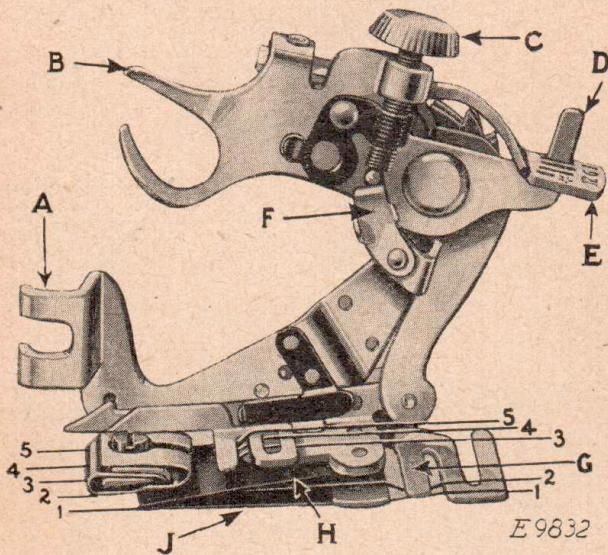
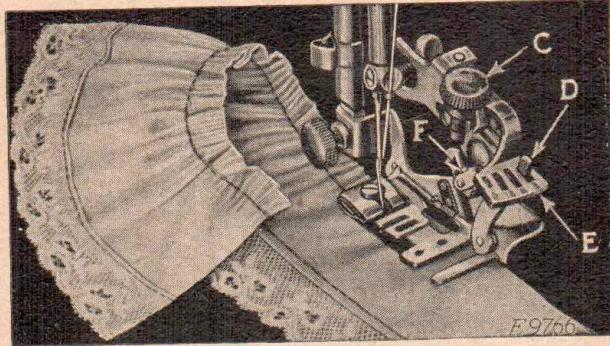
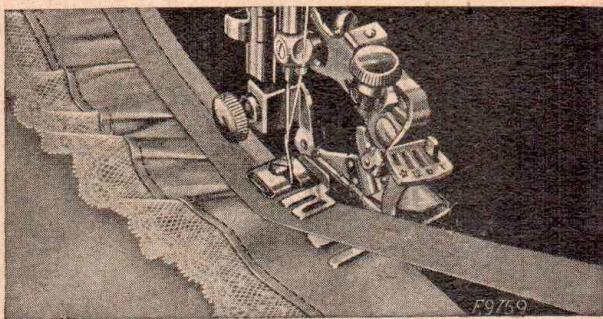
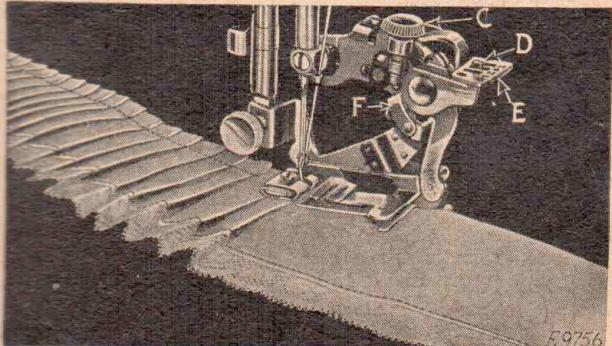

FIG. 55. THE RUFFLER AND ITS PARTS
FIG. 56
FIG. 58
FIG. 60
Lines 1, 2, 3, 4 and 5 shown in Fig. 55 indicate where the material is to be placed for various operations, as follows:
Refer to Fig. 55 when inserting the material in the ruffler.
(SEE REFERENCES IN FIG. 55)
Raise the needle bar to its highest position and remove the presser foot. Attach the ruffler foot (A, Fig. 55) to the presser bar from the right and fasten by means of the thumb screw, at the same time placing the fork arm (B, Fig. 55) astride the needle clamp as shown in Fig. 56.
The adjusting finger (F, Fig. 56) is not intended for gathering and should be moved forward or away from the needle, as shown in Fig. 56.
Raise the adjusting lever (E, Fig. 56) and move it to the left so that the projection (D, Fig. 56) will enter the slot marked "1" in the adjusting lever (E) when the lever is released. The ruffling blade will then move forward and back once at every stitch. Insert the material to be ruffled between the two blue blades, following the line 2 in Fig. 55. Draw the material slightly back of the needle, lower the presser bar and commence to sew.
To make fine gathering, shorten the stroke of the ruffling blade by turning the adjusting screw (C, Fig. 56) upward; also shorten the stitch. To make full gathering, lengthen the stroke of the ruffling blade by turning the adjusting screw (C) downward; also lengthen the stitch. By varying these adjustments, many pleasing varieties of work can be accomplished.
2, in Fig. 55. Place the garment to which the ruffle is to be attached, under the separator blade, following the line 1, in Fig. 55. Proceed the same as for gathering.
Insert the material to be ruffled between the two blue blades, following the line 2, in Fig. 55. Place the garment to which the ruffle is to be attached under the separator blade, following the line 1, in Fig. 55. Place the material for the facing over the upper blue blade, as shown in Fig. 58, following the line 3, in Fig. 55. The facing may be straight or bias material. If the facing is to be on the right side of the garment, place the garment and
Insert the material to be ruffled between the two blue blades, following the line 2, in Fig. 55. This
The material for piping must measure about $\frac{1}{4}$ inch wide when folded in the center and is usually cut on the bias. Place the piping material in the ruffler, following the line 4, in Fig. 55, with the folded edge of the piping to the right. The material to which the piping and ruffling are to be sewn should be folded on the edge and inserted in the ruffler, following the line 5, in Fig. 55.
Raise the adjusting lever (E, Fig. 60) and move it to the right so that the projection (D, Fig. 60)
will enter the slot marked "6" in the adjusting lever when the lever is released. The ruffling blade will then move forward and back once at every six stitches. To adjust the ruffling blade to make a plait once at every twelve stitches, place the adjusting lever (E, Fig. 60) so that the projection (D) enters the slot marked "12" in the adjusting lever. Insert the material to be plaited between the two blue blades, following the line 2 (Fig. 55). The size or width of plaits is regulated by the adjusting screw
(C, Fig. 60) and the adjusting finger (F, Fig. 60). To make a wider plait, move the adjusting finger (F) back or toward the needle and turn the adjusting screw (C) downward. To make a smaller plait, turn the adjusting screw (C) upward. The distance between plaits is regulated by the length of stitch.